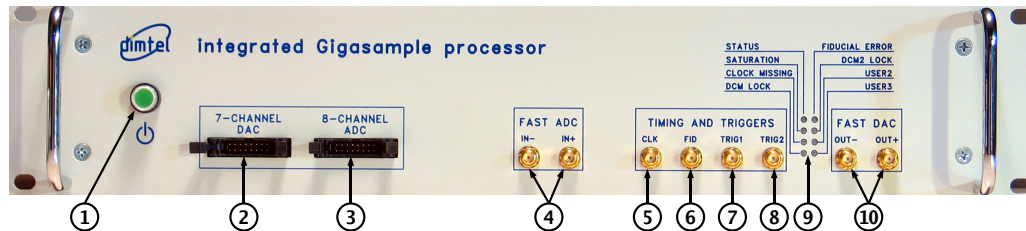

Figure 2: Front panel features
2. Connect RF clock at -3 dBm nominal level (Fig. 2, item 5);
3. Connect single-ended high-speed ADC input signal to **Ain+** (Fig. 2, item 4). The FS swing of this signal should be 190 mV peak-to-peak;
4. Connect a $50\ \Omega$ terminator to **Ain-** (Fig. 2, item 4);
5. Connect high-speed DAC output(s) (Fig. 2, item 10) to the appropriate back-end unit;
9. Push the power button (Fig 2, item 1) to turn on the system;
11. Push the power button (Fig 2, item 1) to turn the system off;
- Connect the 16-pin ribbon cable between the 7-channel DAC (Fig. 2, item 2) and the 8-channel ADC (Fig. 2, item 3);
- Connect 178.55 MHz clock to the RF clock input (Fig. 2, item 5);
- Terminate Ain- fast ADC input (Fig. 2, item 4);
- Terminate Aout- fast DAC output (Fig. 2, item 10);